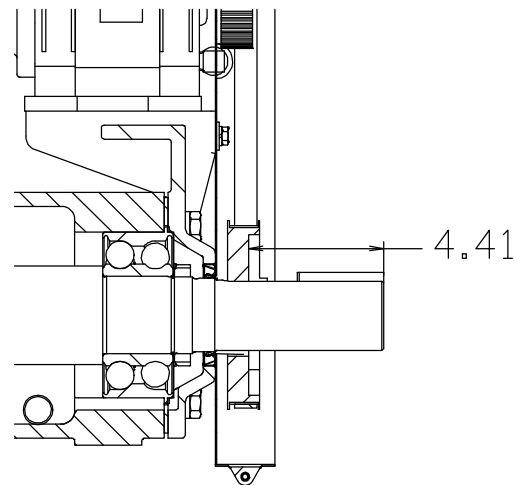

Figure 6. Drive Sprocket Positioning
Install the key (31) in the shaft keyway, making sure to leave room in the keyway for the drive key (27, Figure 2). Install the bushing (30) and sprocket (29) on the shaft to the dimension shown in Figure 6.